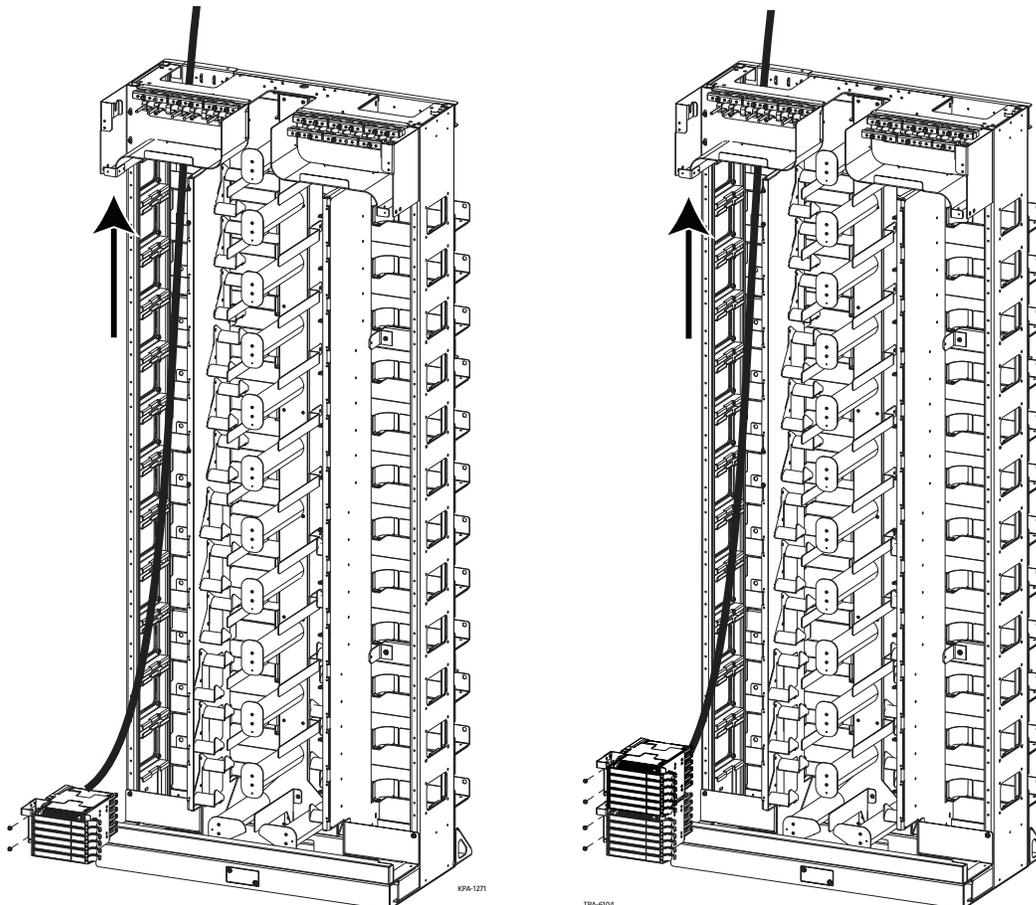

Figure 3
Step 2: Feed cable up through opening at the top of the frame (Figure 3) and secure to the lances at the top of the frame with a cable tie.